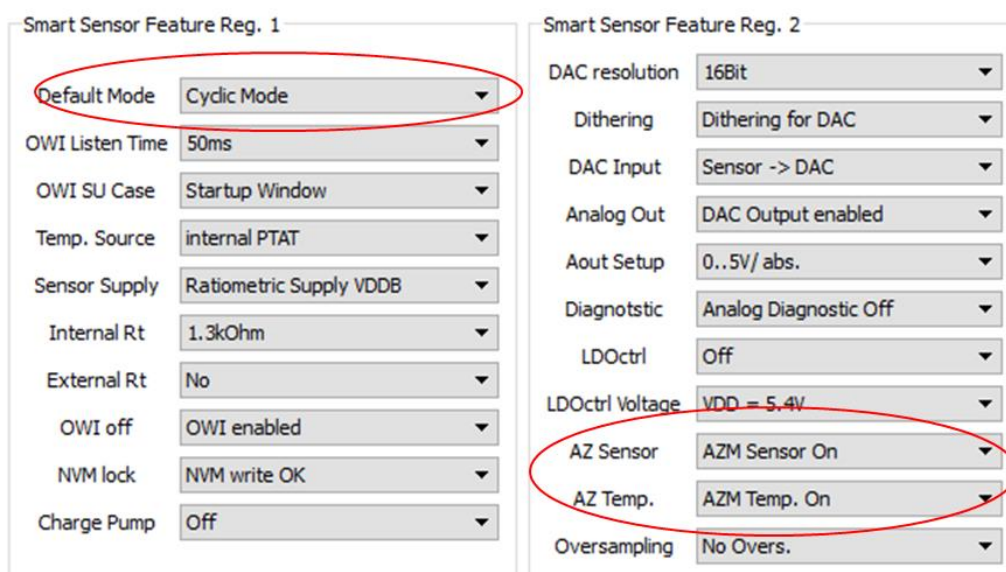

Figure 10. Cyclic Mode and AZs on the NVM Tab of the GUI
2. Set the smart sensors according to Figure 10 to use Cyclic Mode and the Auto-Zero measurements.